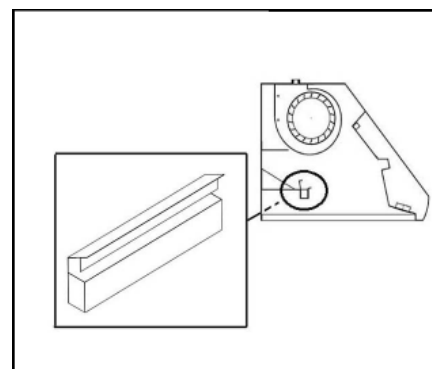

Figure 16
7. Drop oil tunnel into recess support near rear of hood. Refer to Figure 16.